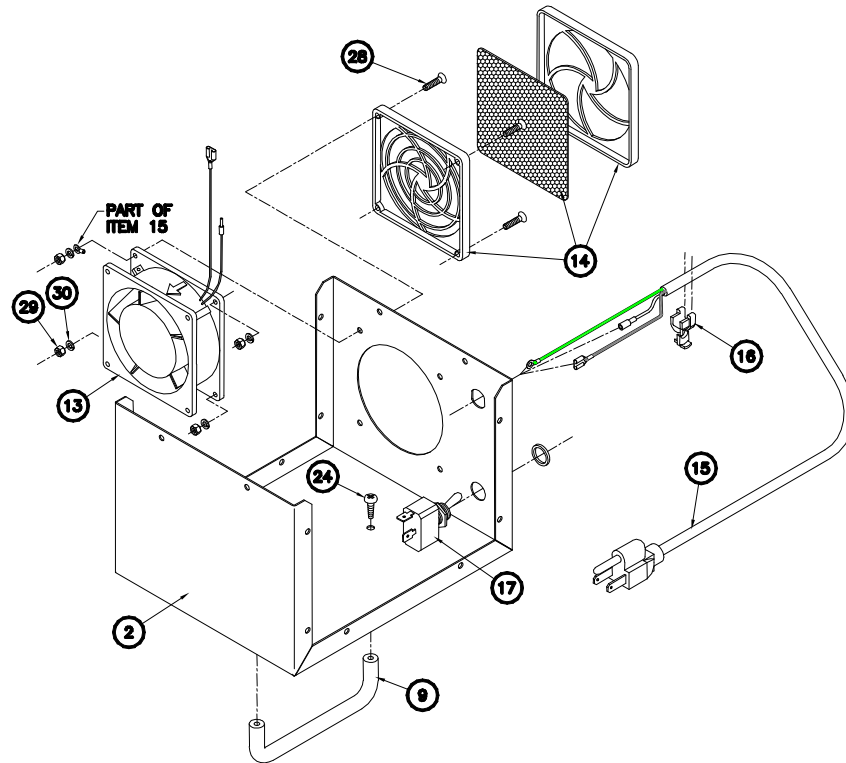

FIGURE 10
- c) When installing **Item 13** (Fan) it must be positioned as shown in Figure 10, with the wire leads and flow arrow as shown. **Item 14** consists of three parts: filter media, inner guard and outer guard. Separate the three parts and put aside the filter media and the outer guard. Install the inner guard and **Item 13** (Fan) to **Item 2** (Enclosure Top) using three **Item 28** (#6-32 x 5/8" flat head screw), three **Item 30** (#6 split lock washer) and three **Item 29** (#6-32 hex nut) in the bottom (as shown in Figure 10) two holes, and the top right hole. Leave finger-tight for now.
- d) The upper-left (as shown in Figure 10) screw, lock washer and nut will be installed later, with the ground wire.